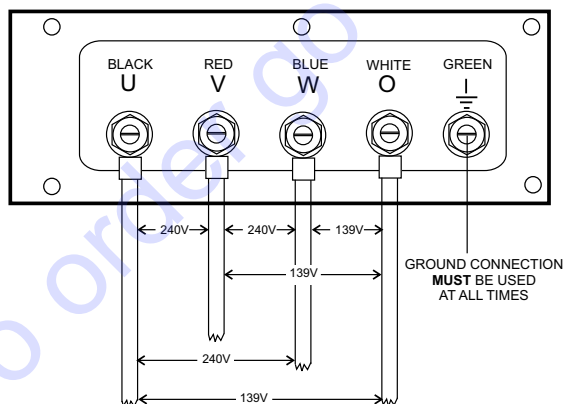

Figure 23. UVWO Terminal Lugs
2. Connect the load wires to the UVWO terminals as shown in Figure 23.